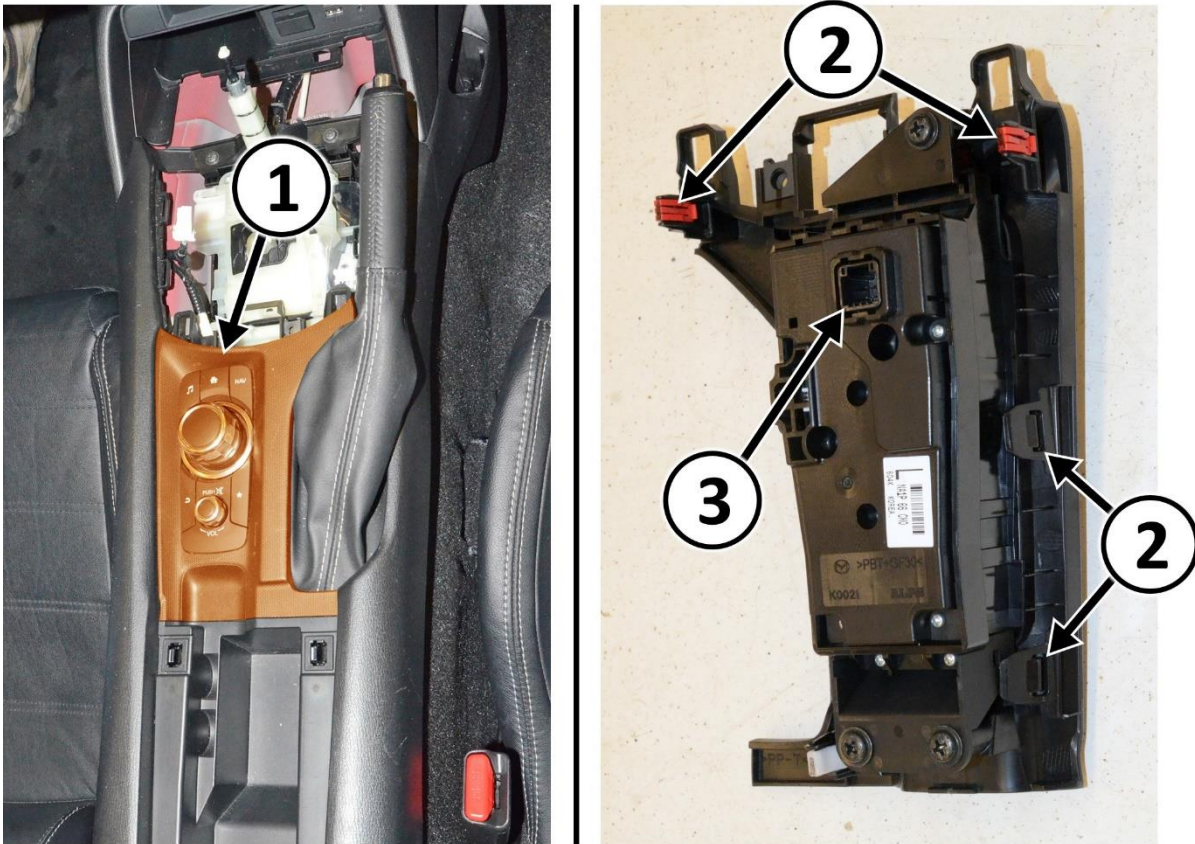

Figure 7 – Center Console Radio Control Switch and Bezel Assembly
14. Using a trim stick, lift the center console radio control switch bezel (1) while releasing the retaining clips (2) (Figure 7).
15. Disconnect the electrical connector (3) then remove the center console radio control switch and bezel assembly (Figure 7).